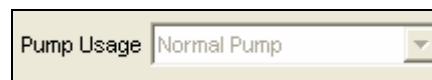

Figure 16.3.4A
3. Next check and see what the **Pump Usage** box is set at (Figure 16.3.4A).